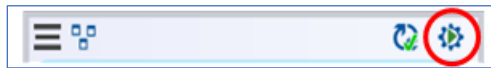

Figure 90: Gear with Green Arrow—Not in Auto Apply
- When a green arrow displays in the gear, as shown in Figure 90, it is **not** in Auto Apply mode.